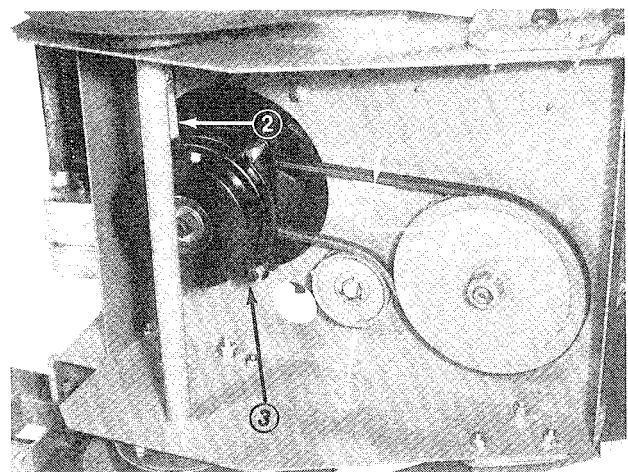

Figure 21
1. Loosen capscrew and flange locknut securing idler pulley to frame (Fig. 21). Slide pulley outward relieving belt tension.
2. Remove left front engine mounting bolt securing clutch retainer to frame (Fig. 21). Unhook retainer from clutch and remove retainer.
3. Disconnect in-line wire connector and remove belt from drive pulley and clutch (Fig. 21).
6. Position and secure idler pulley to frame so belt deflection is no more than $1\frac{1}{64}$ " when 5–1/2 lb of force is applied to mid span of long leg of belt (Fig. 21).
1. To adjust clutch, tighten or loosen locknuts on flange studs (Fig. 21).